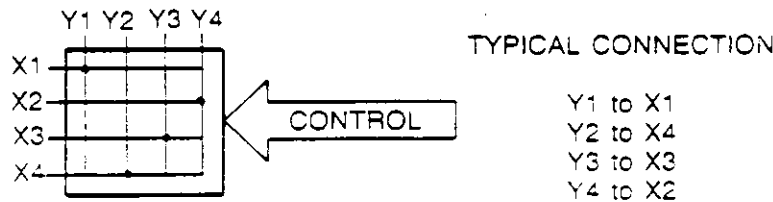

Figure 8-9 CROSSPOINT MATRIX, EK-824/1232/1648
3.20 All analog (voice) switching is done in crosspoint matrixes, which are electronic switching circuits controlled by digital signals. Depending on the state of the digital control signals, any input can be connected to any output. A typical crosspoint arrangement is shown in Figure 8-9. In this system, the crosspoint matrixes on the B-TGU-B PCB are controlled by the Matrix Control decoder, which is in turn controlled by the Z80 data bus. There are two crosspoint matrixes: the DTMF Tone Matrix and the Page Matrix.